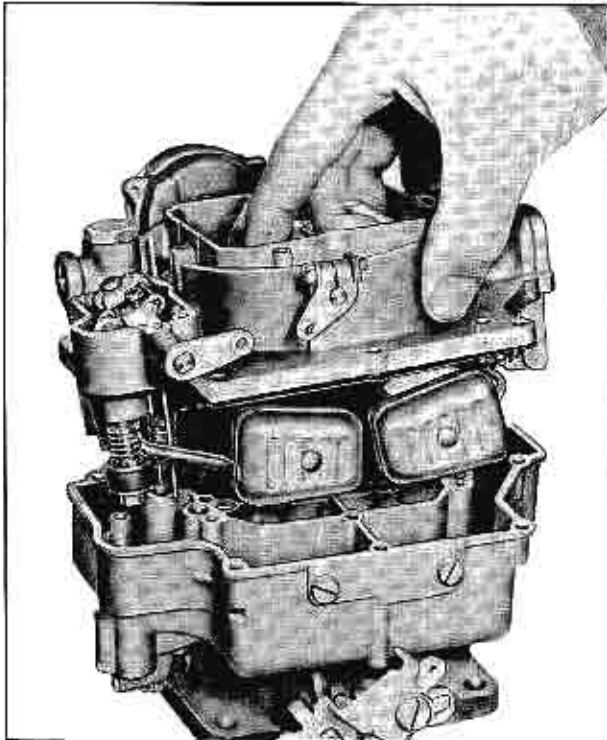

Fig. 12-52 Removing Bowl Cover
8. Lift bowl cover assembly straight up out of bowl by gripping air horn section as shown in Fig. 12-52, being careful not to bend float assemblies.